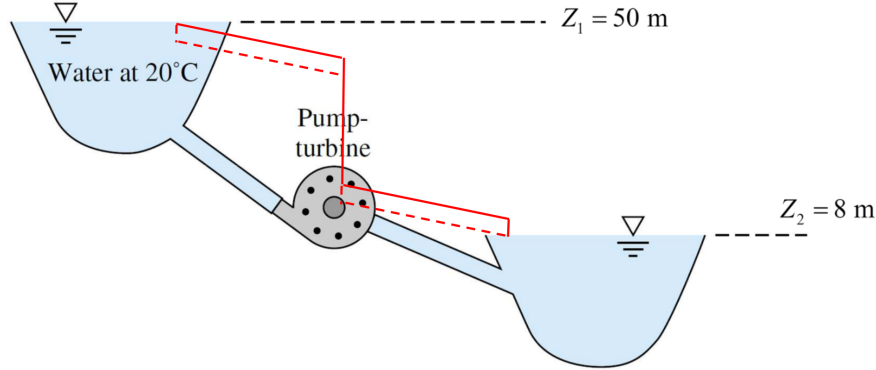

Figure 9: Daytime EGL (solid line) and HGL (dashed line).
- (c) The HGL and EGL during the daytime are shown in Fig 9.